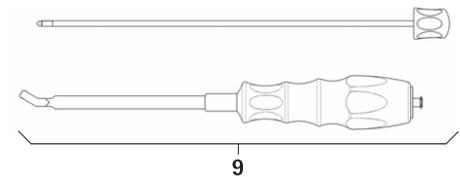

Fig. 5
- ▶ Dismantle rod insertion instrument 9, see Fig. 5: Unscrew the inner part.